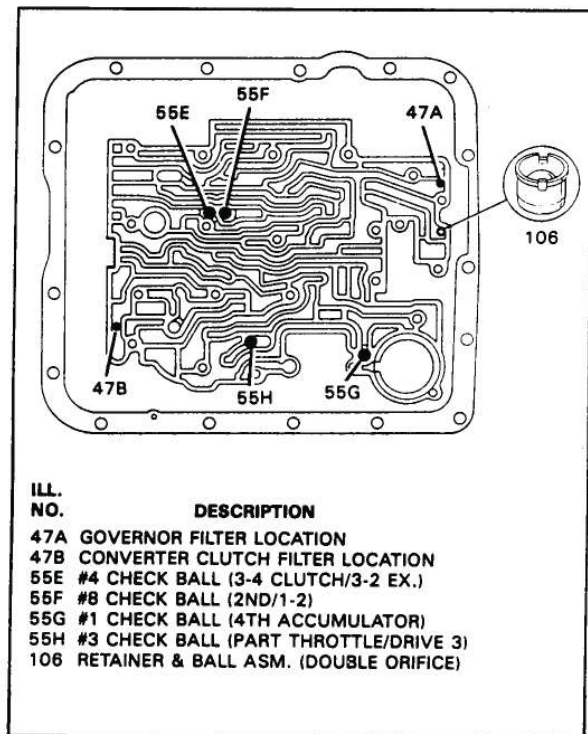

Figure 188
2. Ensure that ball capsule in case is free and operational, as shown in Figure 188.
NOTE: THE EARLY 1987 UNITS THAT USE THE REVERSE INPUT HOUSING WITH THE "STEEL" PISTON (SEE FIGURE 149), DOES NOT USE BALL CAPSULE IN THE CASE PASSAGE, THAT IS SHOWN IN FIGURE 188.